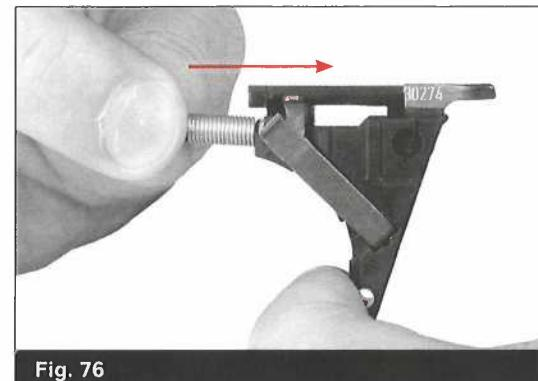

Fig. 76
- Separate the trigger mechanism housing from the trigger spring by "unhooking" the end of the "S" shaped coil trigger spring. (Fig. 76/77)